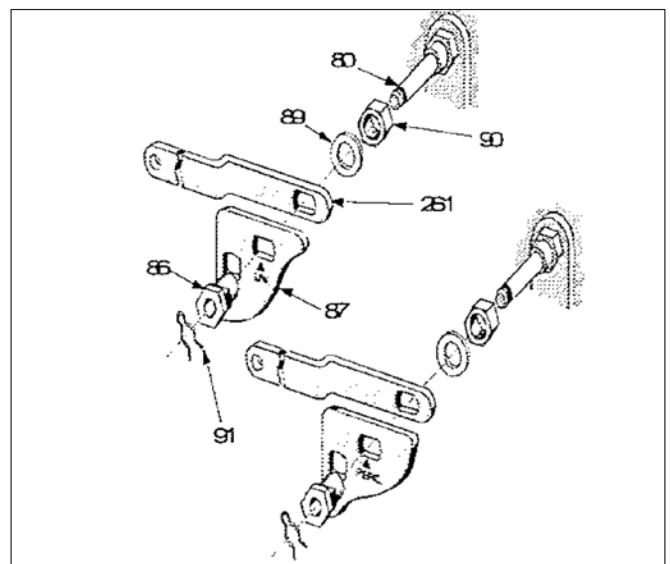

Figure A1 - Mounting cam - rear lever S/A
equal percentage). This mark must also indicate the rotation axis of the cam (see figures A1, A5, and A7).
- Remove retaining clip (91) and disengage cam (87) - rear lever (261) assembly from the bearing post (80). Unscrew the nut (90) and disassemble cam and rear lever.
**Note: Apply a little bit of grease on the bearing post (80).**
- Reassemble cam and rear lever in the proper position and tighten firmly the nut (90). Replace this subassembly on bearing post (80) being careful to place correctly the bearing lever (82) relating to the cam (87) and the external lever (32). Replace the retaining clip (91) (see figures A1, A4, A5, and A7).